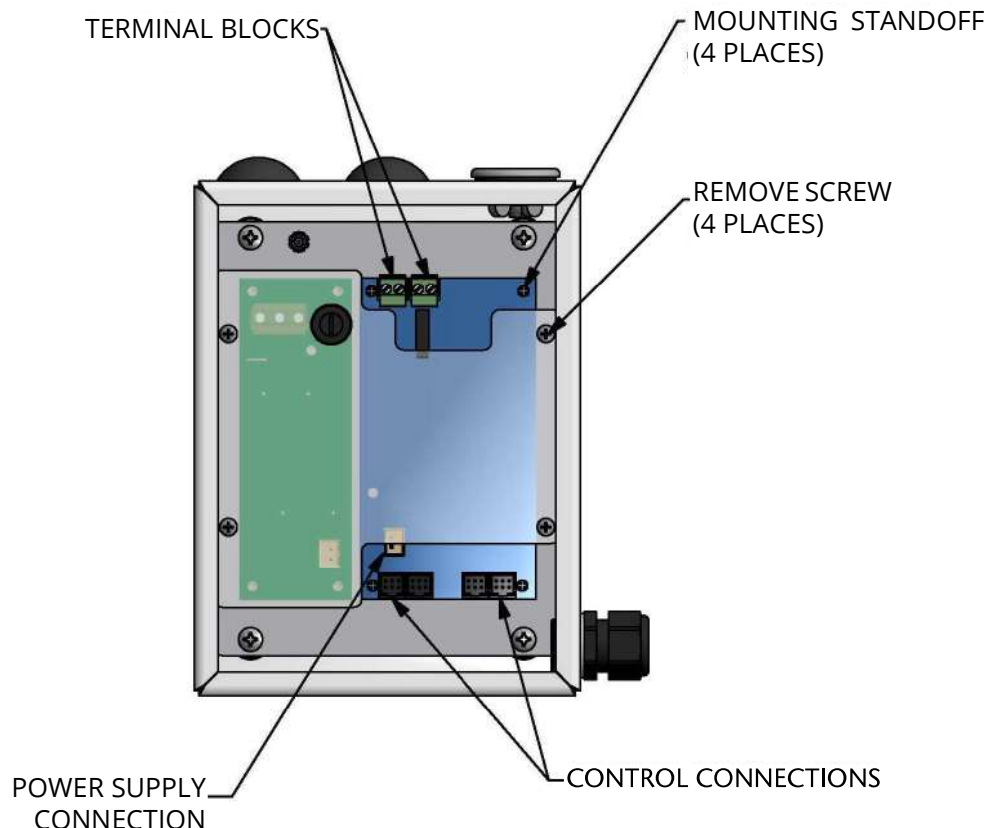

Figure 30: Control Board Replacement.
4. Using Retaining Ring pliers, remove Retaining Ring holding in Check Valve. See Figure 30.
5. Using Needle Nose pliers grasp the Guide of Check Valve and pull Check Valve out of the manifold Body. See Figure 30.
7. Using Needle Nose pliers, push on Check Valve Body. You will feel the O-ring on Check Valve engage the Body. See Figure 30.
9. Re-assemble Line Regulator, Ball Valves and Bank Regulator. Use care to engage the pin on small end of ball valve into slot on line regulator body. Firmly press together Bank and Line sections together and tighten the (2) Socket Head Cap Screws hand tight.
See Figure 30.